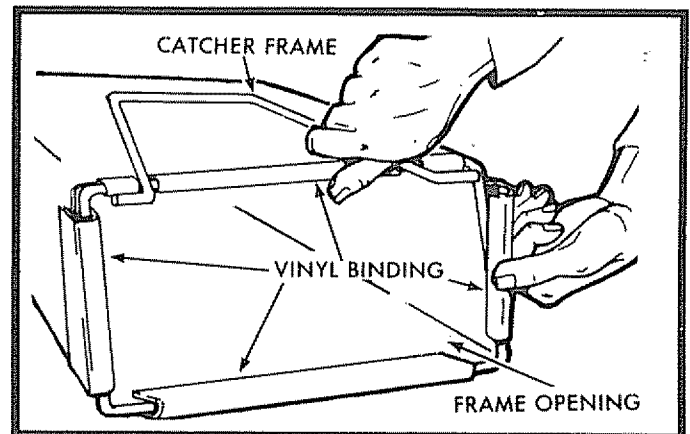

FIG. 2
- Put grass catcher frame into grass bag with stiff part on bottom (See Fig. 2).
- Slip vinyl bindings over frame (See Fig. 2).